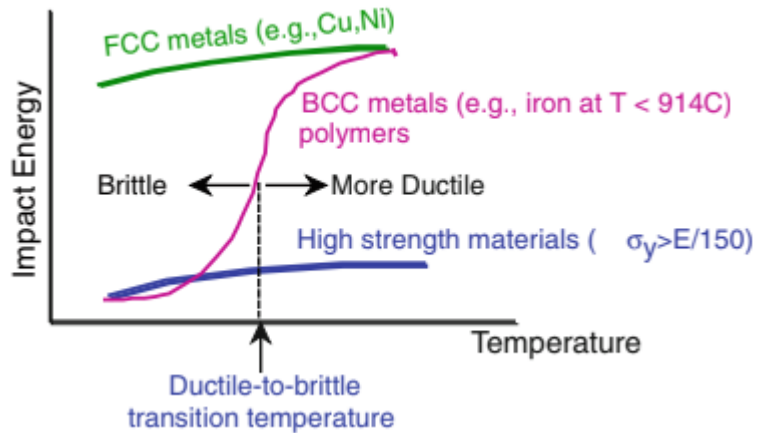

Figure 2: Ductile–brittle transition temperature curve
- c) Figure 2 below shows a ductile–brittle transition temperature curve